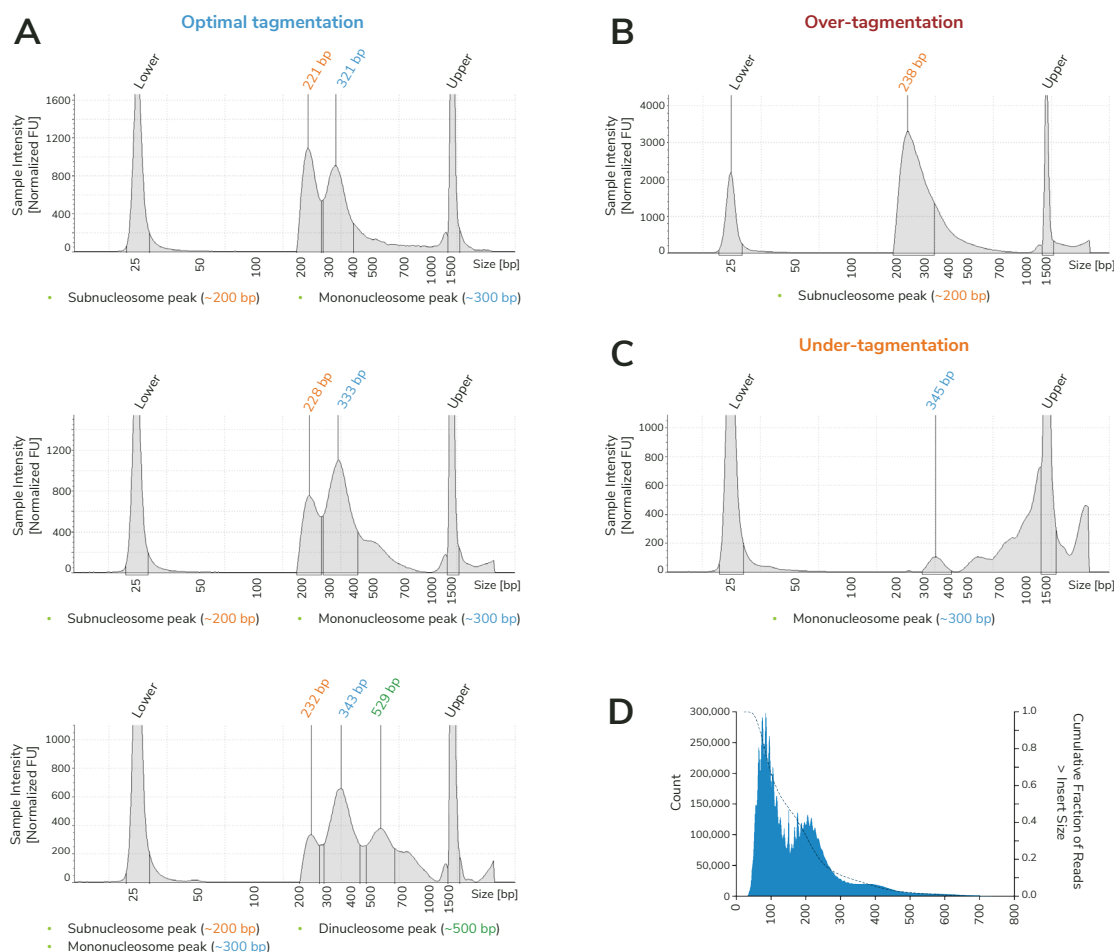

FIGURE 7
- * This protocol recommends using 5 Units of CUTANA Tn5 Transposome per ATAC-seq reaction with 1,000–50,000 human nuclei. If working with a novel sample type, an organism with a genome size that differs significantly from human, or if over-tagmentation was observed in a previous ATAC-seq reaction (see Figure 7, p. 18, for example TapeStation traces), we recommend performing a Tn5 titration to establish the optimal Tn5:nuclei ratio. See this Tech Support Center article for more recommendations on Tn5 Transposome optimization.
56. Use 1 μ L ATAC-seq library for analysis on the Agilent Bioanalyzer (High Sensitivity DNA Kit) or TapeStation (D1000 ScreenTape System). Set region to 150–700 bp for quantitation. Typically, libraries made from 50,000 K562 nuclei input can be expected to be >20 nM. Lower library yield is expected with lower-input or difficult samples, and is generally acceptable if ≥ 1 nM. See Figure 7 for more expected TapeStation results.